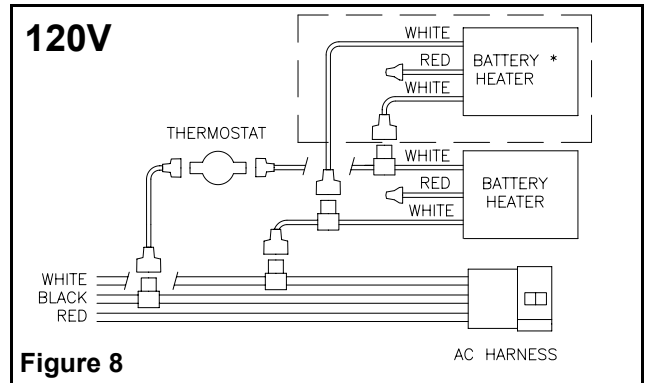
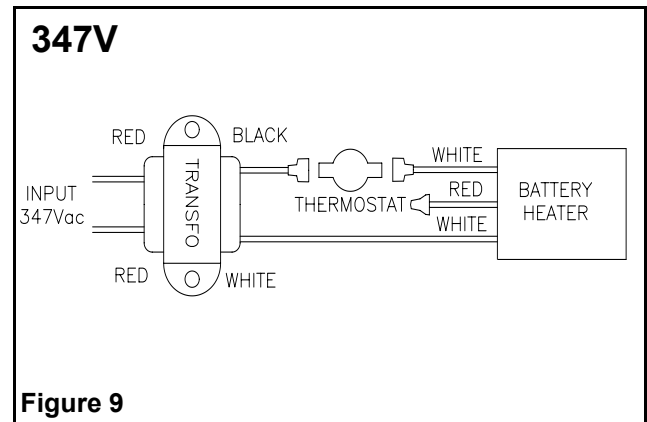

Figure 8
Figure 9
- b. Refer to figure 8 for 120VAC input voltage and to figure 9 for 347VAC. Use wire taps provided with the hardware kit to connect battery heater.